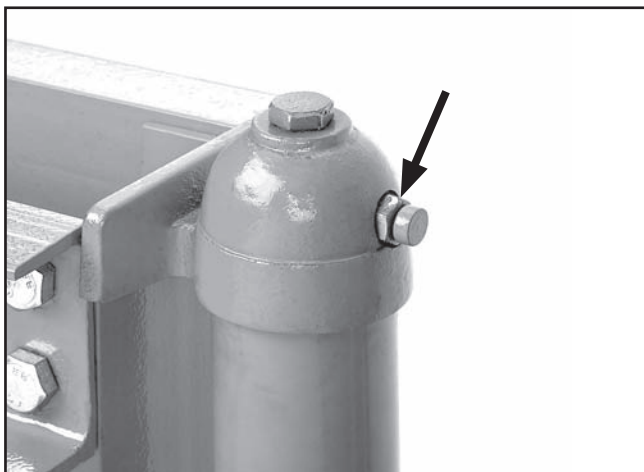

Figure 19. Breather fitting.
22. Completely un-thread the reservoir breather shown in **Figure 19** and leave it open. This valve is closed so the hydraulic fluid is not lost during shipping.